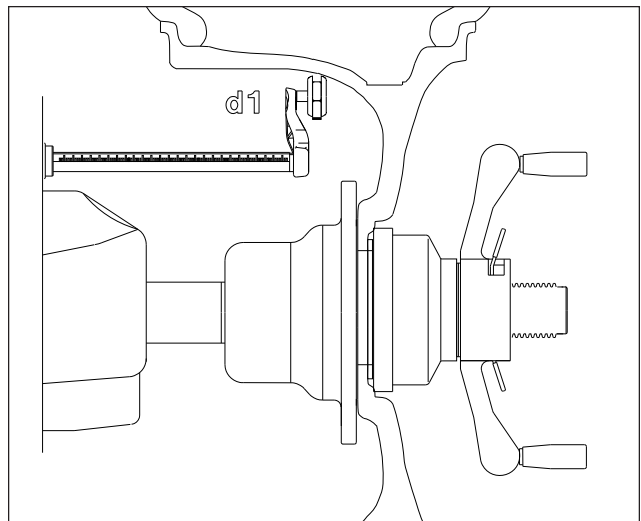

Figure 33
2. Extend the rim offset gauge arm and touch the position of the desired single weight position. See Figure 33. The display will read "**d - I**". A tone will sound when dimension is entered. Return the gauge arm to the home rest position, a low pitch tone will indicate when it is OK to proceed.